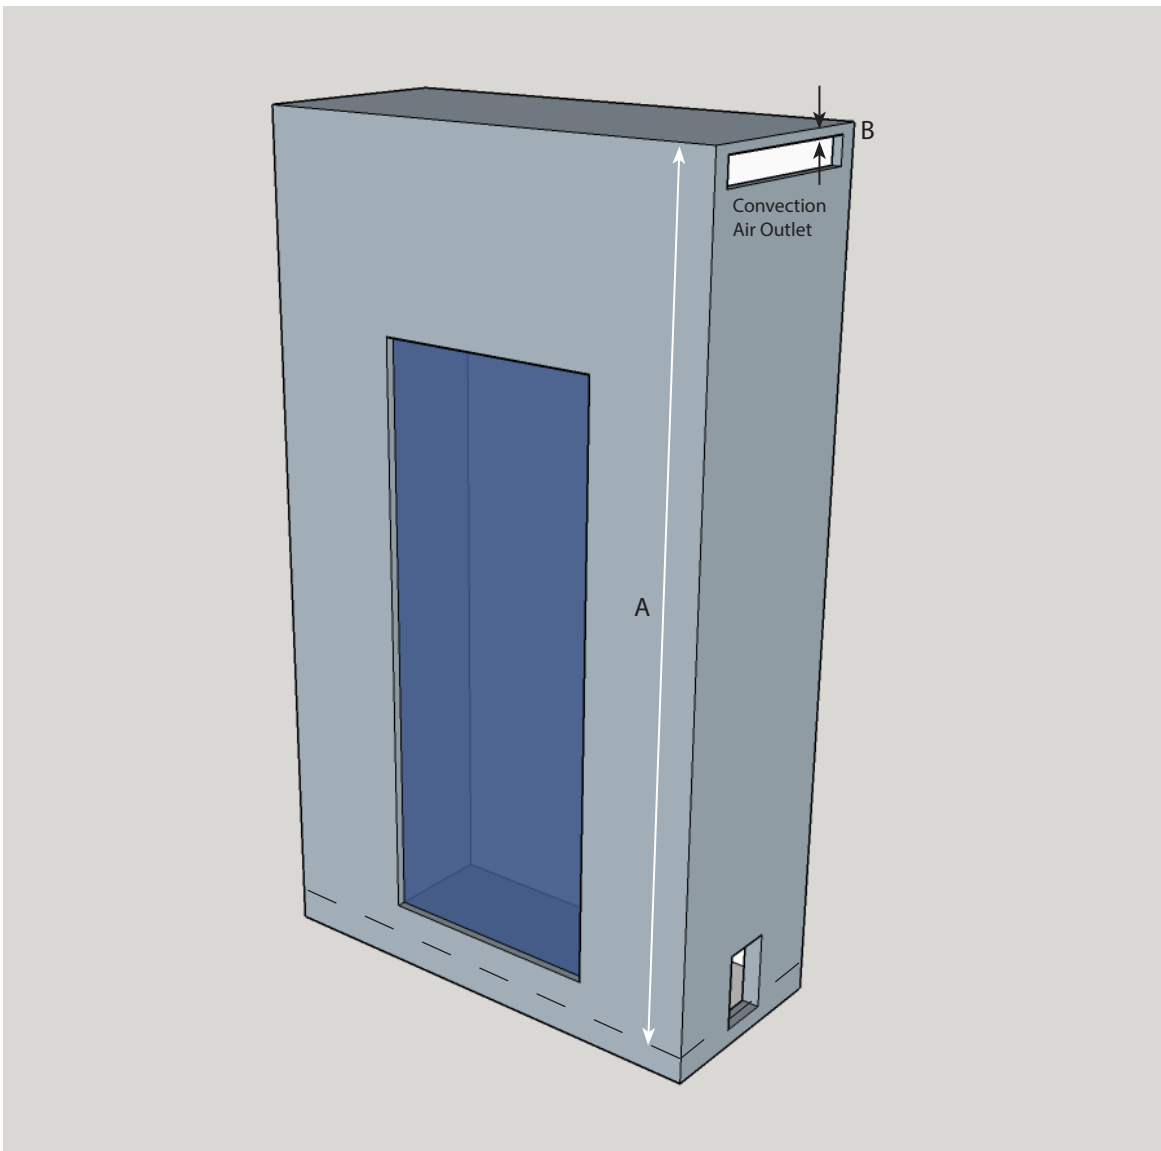

Figure 15
- The minimum distance from the bottom of the appliance to the room ceiling is 72"/1830 mm. (See Figure 15, Table 2)